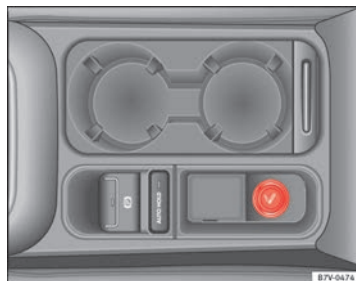

Fig. 119 Front centre console: lighter.
Depending on the vehicle equipment, there may be a lighter to the front of the centre console  $\Rightarrow$  fig. 119 or in the compartment to the front of the centre console.
- Push the button on the cigarette lighter inwards with the ignition on  $\Rightarrow$  fig. 119.